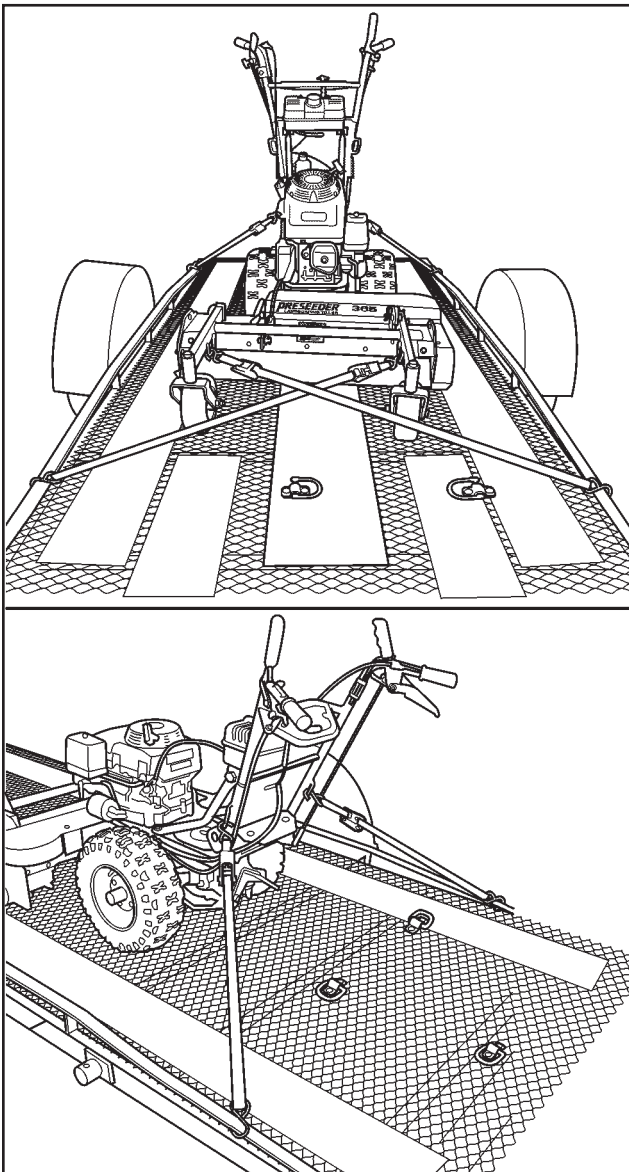

FIGURE 27 Transport Tie Downs
1. Position the machine on a trailer or other vehicle (See Figure 27).